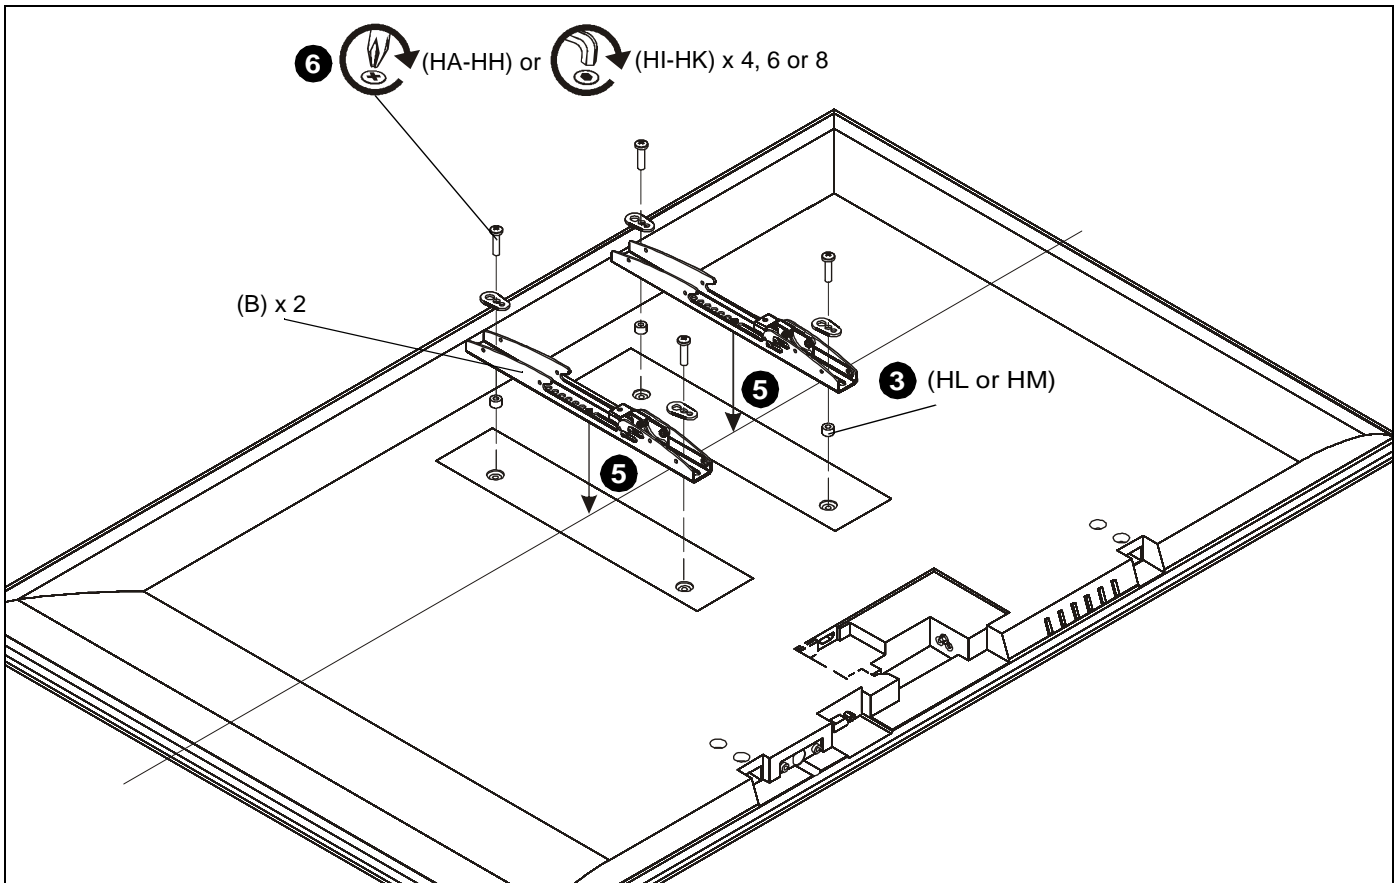

Figure 8
2. Select screw *diameter* by examining hardware (HA-HK) (4mm, 5mm, 6mm or 8mm) and comparing with mounting holes on display. (See Figure 8)
3. Select spacers: (See Figure 8)
- If mounting holes are not recessed and both uprights (B) can lay flat against display, then no spacers are required.
- If mounting holes are recessed, or if protrusions prevent uprights (B) from laying flat, then spacers (HL or HM) must be used.
4. Select screw *length*: (See Figure 8)
- Using your hand, insert **SHORTEST** length screw of selected diameter (HA, HD, HG or HI) through universal washer (HN), uprights (B), selected spacer (HL or HM), into display mounting hole. Do **NOT** thread screw into hole at this time.
5. Place uprights (B) on display, ensuring: (See Figure 8)
- Center of uprights (B) are as close to the center of the back of display as possible after being installed. Center of bracket is indicated by the diamond-shaped hole.
6. Use selected screws and spacers to install two interface uprights (B) to back of display. (See Figure 8)